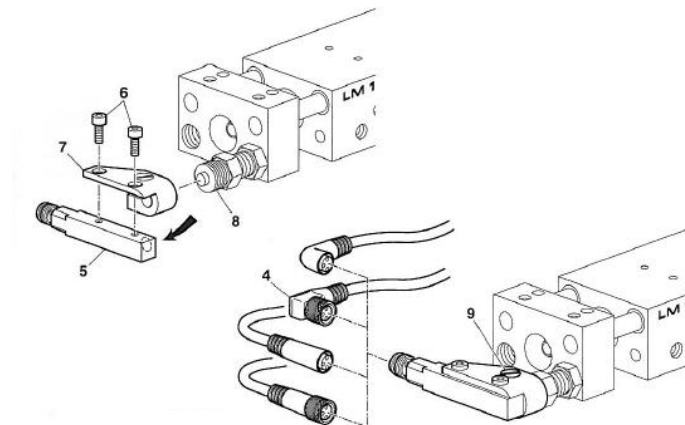

Fig. 15 Mounting of the proximity switch 8x8 mm
1. Screw the proximity switch (Fig. 15, 5) to the holder (7) with screws (6).
2. Push the holder (7) with the proximity switch on the stop screw (Fig. 15, 8) up to the stop.
3. Tighten with screw (Fig. 15, 9).
4. Fit the plug (Fig. 15, 4).